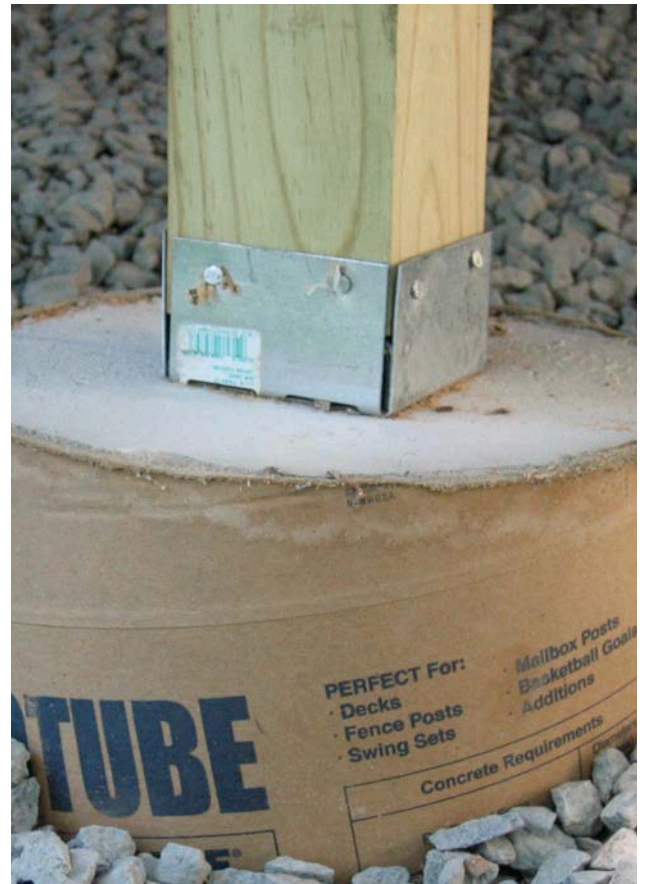

Figure 14: Footings Adjacent Existing House
- When the edge of a deck footing is closer than 5 feet to an existing exterior house wall, the footing must bear at the same elevation as the existing house footings as shown in FIGURE 14.